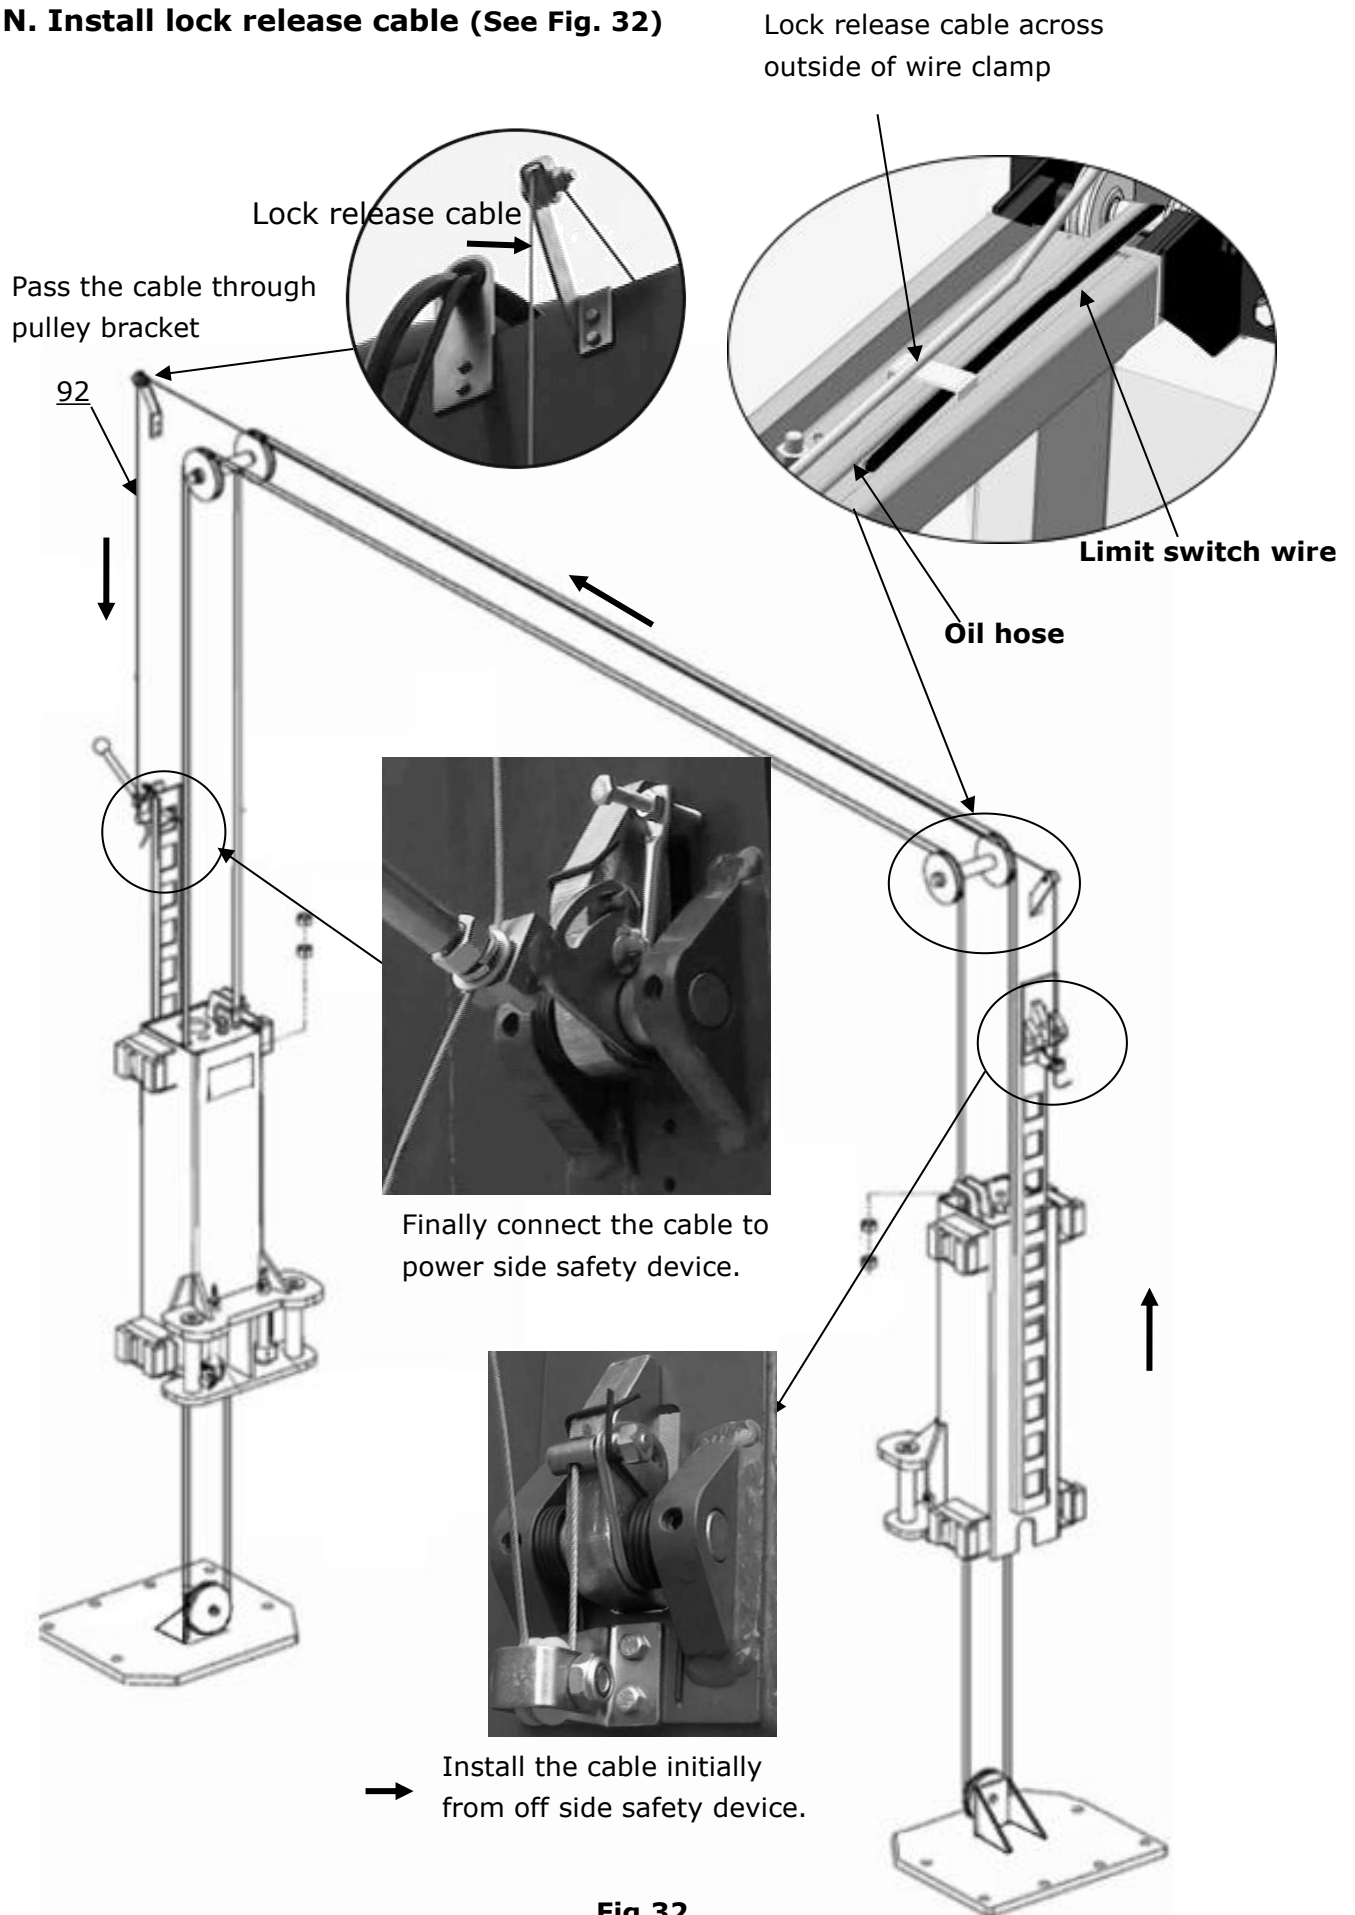

Fig.32
N. Install lock release cable (See Fig. 32)